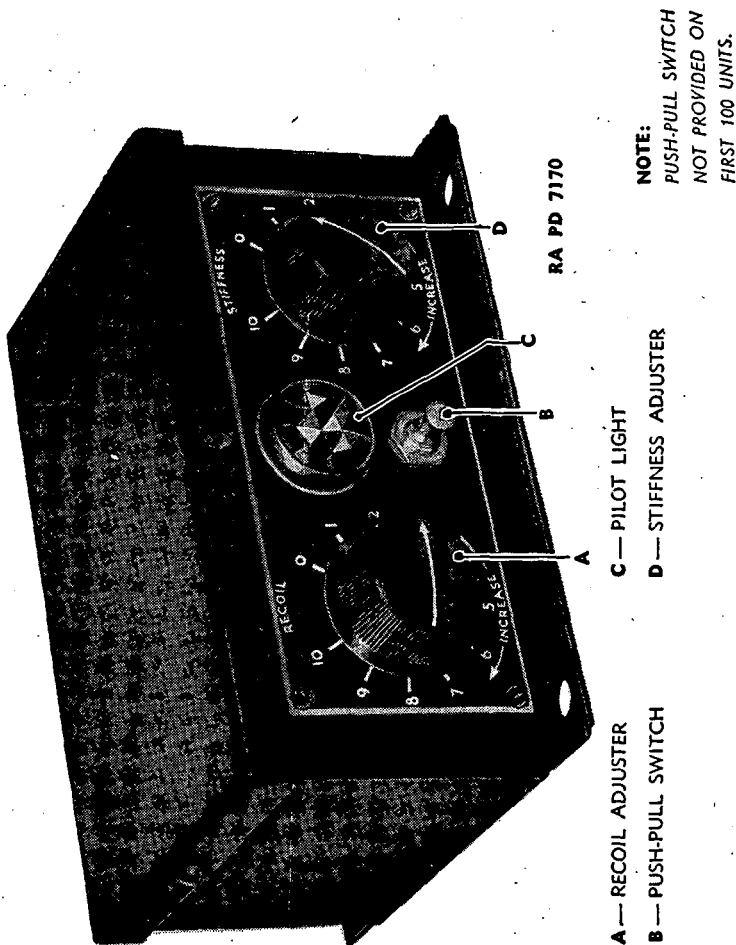

Figure 108.—Exterior of control box, gyro-stabilizer unit.
e. Control box (fig. 108).—(1) Throw the master toggle switch to the "off" position, disconnecting the power supply to the gyro-stabilizer.
(2) Remove the top cover.